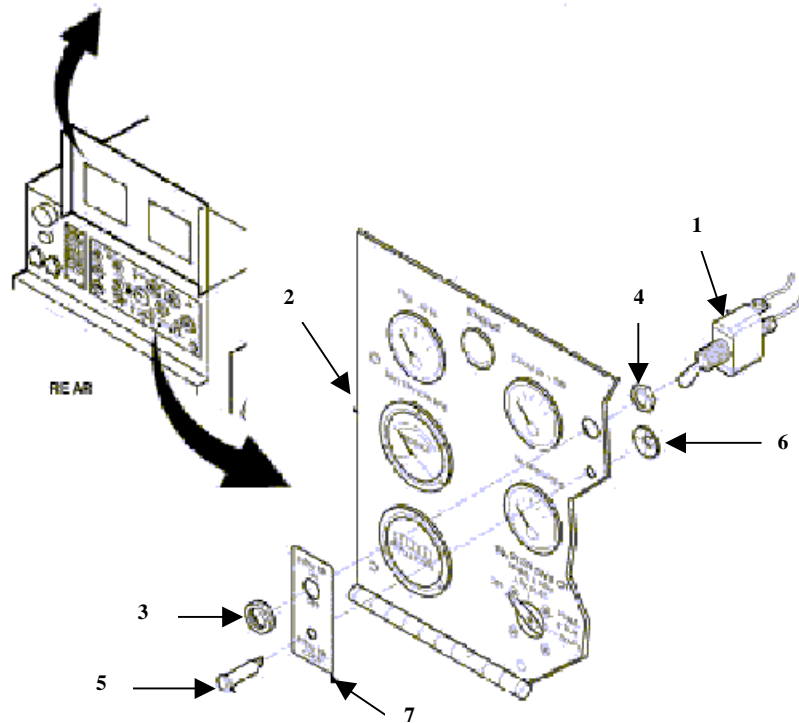

Figure 4-24. Plate, Operation and Heater Switch Maintenance.
1. Disconnect lead from terminal of switch (1), Figure 4-24, and use multimeter to measure for continuity across switch terminals with switch in on position. With switch in off position there should be an open circuit.